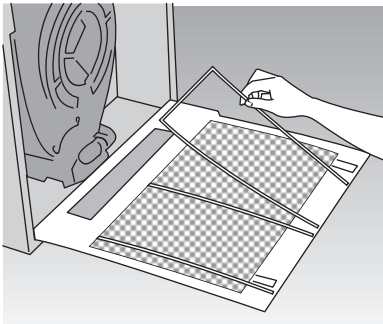

Figure 6
Take the dirty filter out and fit the new one in its place and fix the filter by the filter holders and then put the panel with holes in its place (Figure 6)
- Please fit the filter again its place after you take it out and you wash it and fix the filter by the filter holders and then put the panel with holes in its place (Figure 6).